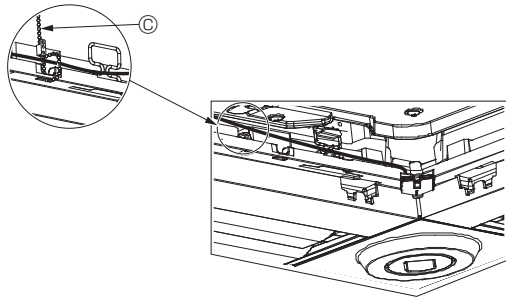

Fig. 6-13
- Secure the i-See sensor and signal receiver wires to the panel with the fastener as shown in the diagram so that there is no slack in the wires, and then cut off the excess end of the fastener. (Fig. 6-13)
- If the position of the i-See sensor was changed from the "○" position (E) to the "□" position (F), change the switch settings. (Refer to page 12.)